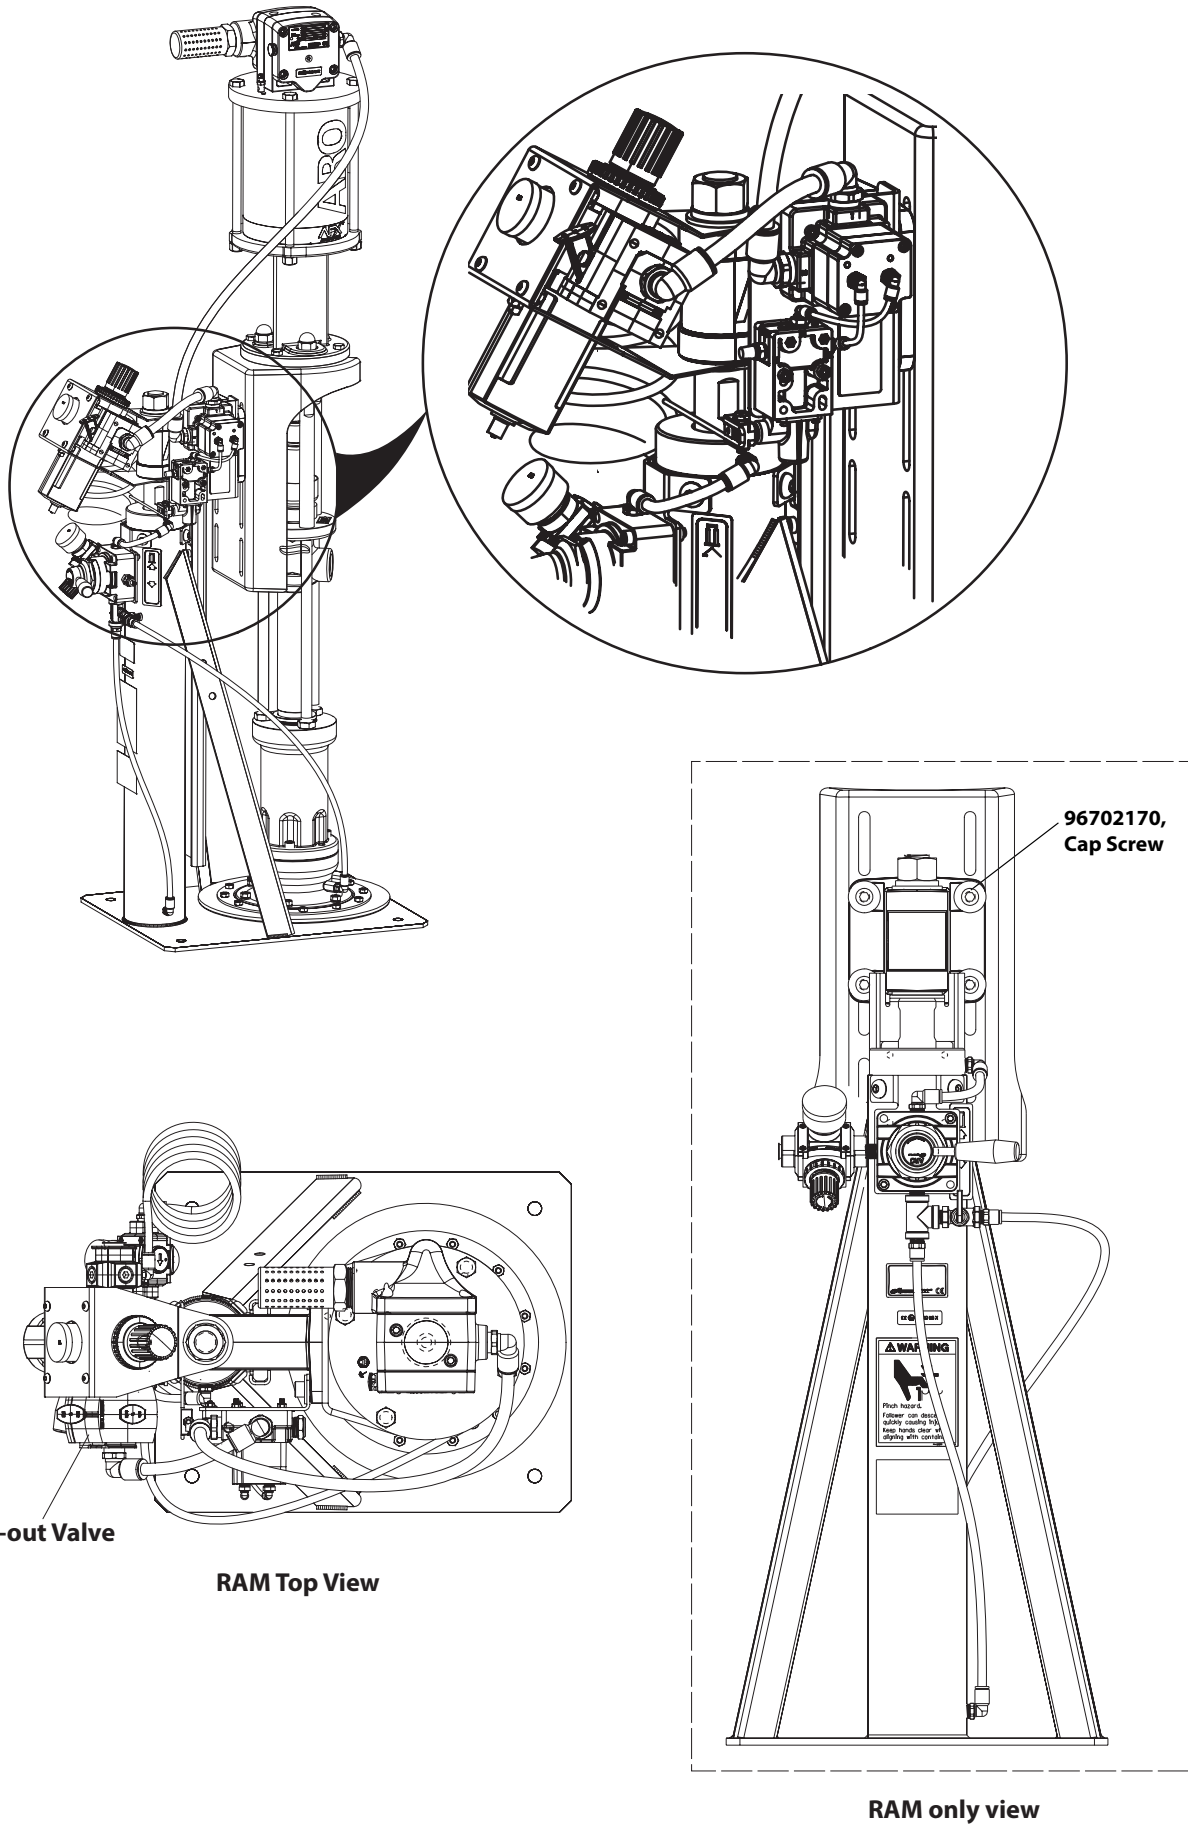

Figure 8
This kit is mounted on the Ram head using the (23) Cap Screws that are included with the Kit (see figure 8, page 6).
2. Attach Low Level Cutoff assembly to upper bolt pattern of Ram Head (Ref PN 97543-1 on Ram Assembly) using (23) Cap Screws, (24) Washers, (26) Lock Washers, and (27) Nuts (see figure 8, page 6).
4. Install one end of (9) Tubing into elbow fitting on Lock-out Valve on Ram and install the other end in elbow fitting in Air Supply Inlet (port#1) on the low level cutoff kit.
5. Attach the (15) Lever Rod to the (16) Limit Valve Assembly. Locate the (15) Lever Rod by raising the Ram 2 inches off the plate and set a clearance of 1/4 inch between the (15) Lever Rod and Cap 96752 on Ram.
6. Additional adjustment may be made by loosening (11) Nut and (18) Socket Head Cap Screw and moving (16) Limit Valve up or down.
7. Adjustment of the (15) Lever Rod and (16) Limit Valve may be needed achieve the desired Ram position to turn-off the pump.
8. Lower the Ram to actuate the (16) Limit Valve.
**⚠ CAUTION** When the Ram is raised and the (15) Lever Rod disengages from the Cap 96752 on Ram, the air motor will start.